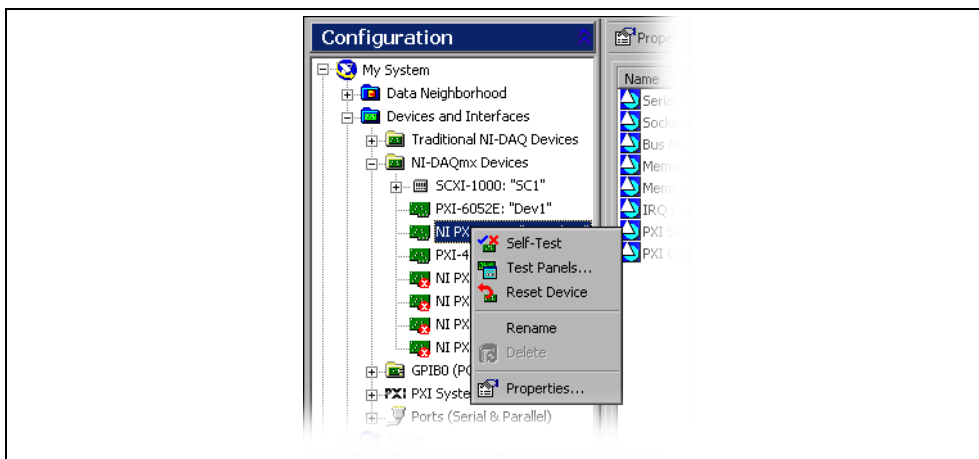

Figure 3. Configuration Tree Shortcut Menu
- b. Select **Self-Test**, shown in Figure 3.
Tip If you need to reset the device with a hard reset, you can do so by right-clicking the device and selecting **Reset Device** from the shortcut menu shown in Figure 3.
2. Right-click the device under NI-DAQmx Devices, and select **Test Panels** as shown in Figure 3.